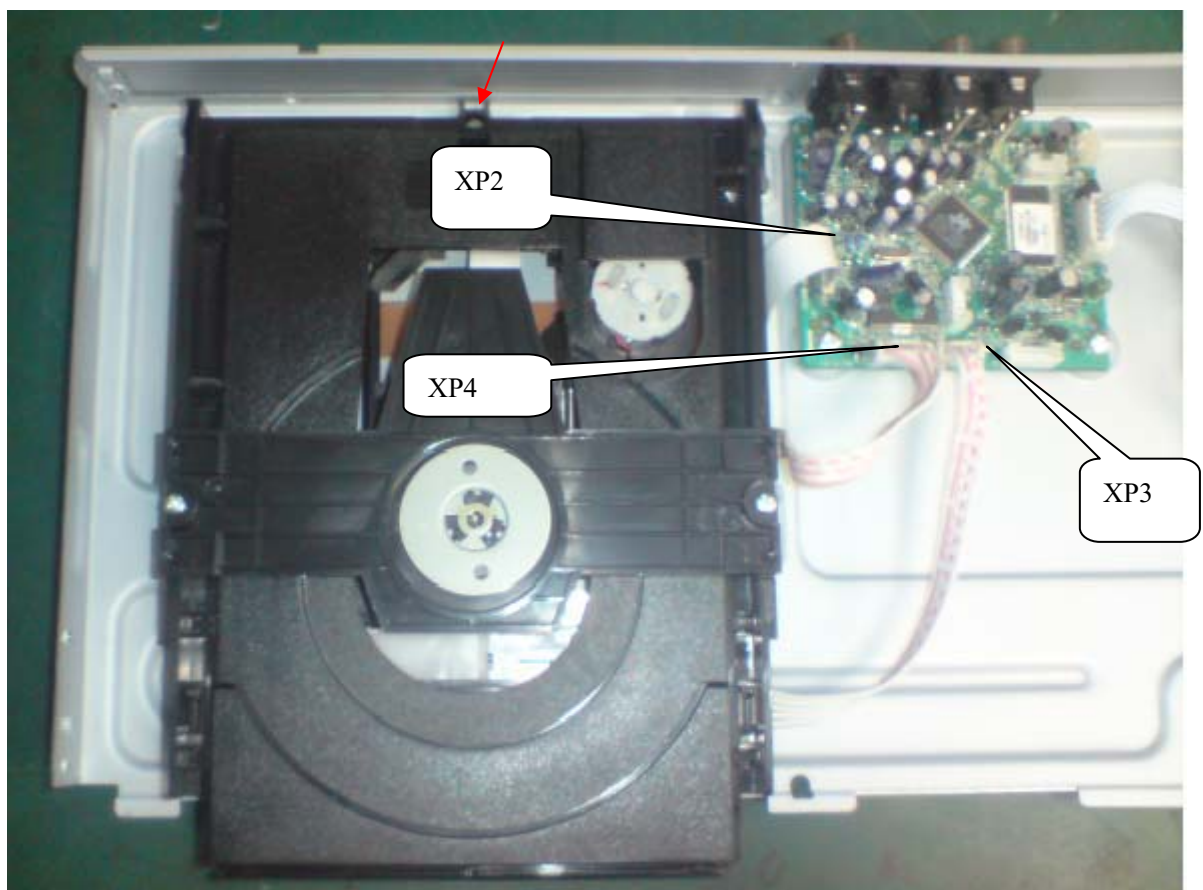

Figure 6
Step5: Dismantling Loader, disconnect the 3 connectors (XP2, XP3, XP4) aiming in the below figure, and remove 1 screw that connects the loader and the bottom cabinet. (Figure 6)